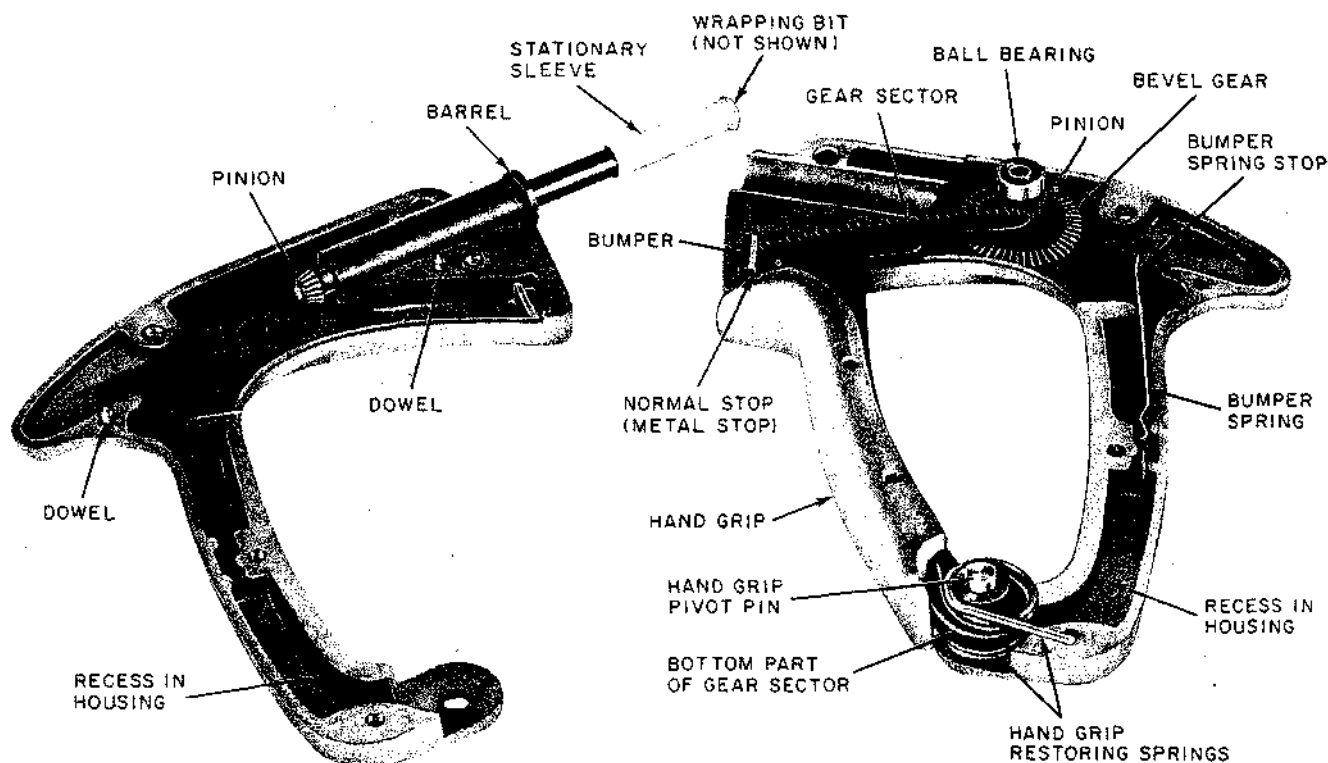

Fig. 4—KS-16363 L1 Hand Wire-Wrapping Tool—Interior View
(3) Carefully separate the two halves of the housing. If necessary, gently pry them apart with the 4-inch E screwdriver at the sections adjacent to the clamping screw hole and near the pivot pin. Take care not to burr the edges of the housing. If a burr should be formed, remove it using the KS-2663 file. As the two halves are separated, take care not to lose parts which may drop from the housing (stop, bumper, and bumper spring shown in Fig. 4).
(4) Remove the metal stop, bumper, and bumper spring. Swing the hand grip aside sufficiently to clear the bevel gear and pinion and remove the gear, pinion, and ball-bearing assembly.
(5) Clean the interior of both halves of the housing and the gears using a KS-2423 cloth moistened with KS-7860 petroleum spirits. Then wipe the parts with a clean, dry cloth. Clean the grease from both ball bearings with an R-2969 brush and petroleum spirits.
(6) Apply grease to both ball bearings using the 353C grease gun equipped with the 570A nozzle.
(7) Remount the bevel gear, pinion, and ball-bearing assembly, as covered in (8).
(8) Position the gear, pinion, and ball-bearing assembly in the portion of the housing that does not contain the barrel retaining screw with the face of the gear upward, as shown in the right half of Fig. 4. This positioning of the gear is necessary in order that the wrapping bit will rotate in the proper direction (counterclockwise as viewed from the outer end of the wrapping bit) when the hand grip is operated. Swing the hand grip so its gear sector is engaged with the pinion teeth of the gear and pinion.
(9) Mount the metal stop and bumper making sure the stop is toward the end of the gear sector on the hand grip, as shown in Fig. 4. Mount the bumper spring, as shown in Fig. 4.
- (10) Apply grease to the teeth of the gear sector, the bevel gear, and bumper spring using the 353C grease gun and 570A nozzle.
- (11) Apply oil to the hand-grip pivot pin using the 486A oil can.
- (12) Place the right half of the housing (Fig. 4) on a flat surface. Make sure the hand-grip restoring springs are positioned on the hand grip at the pivot pin as follows. The slightly offset end of both springs should be in their respective recesses in the hand grip and should lie against the center section of the hand grip. The straight end of the inner restoring spring should be in the recess in the right half of the housing. With the other parts of the tool positioned, as covered in (8) and (9), hold the left half of the housing (Fig. 4) in a tilted position so the straight end of the outer restoring spring lies in the recess in this half. Then, keeping the end of the spring in the recess, carefully position this half of the housing on the other half so the hand-grip pivot pin fully enters its hole and the dowels in one half of the housing enter their holes in the other half. Insert and moderately tighten all of the housing screws and then securely tighten the screws. This is necessary since fully tightening one screw with the others loose may cause binding of the hand grip.
(1) If this requirement is not met, check for freedom of operation covered by requirement **2.06**.
(2) If the freedom of operation requirement is met but requirement (a) is not met, replace the restoring springs.
(3) If the freedom of operation requirement is met but requirement (b) is not met, separate the halves of the housing, as covered in 3.02 and 3.03(2) and (3). Check the position of the bumper spring and, if necessary, position it as shown in Fig. 4. If the requirement still is not met, replace the bumper spring. Assemble the two halves of the housing, as covered in 3.02 and 3.03(12).